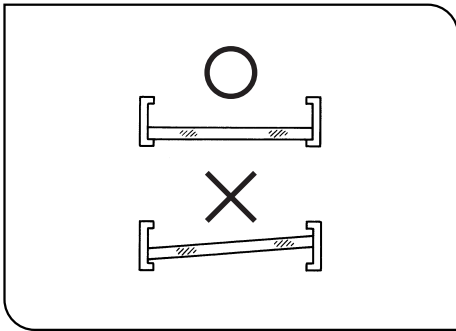

Fig. 39
- ⊙ Wait until the filters have cooled down enough before replacing a filter. Take out the filter holder ① and insert the required filter ②.
- ★ Insert the filter so that it comes at the bottom without tilting, as shown in Fig. 39. If the filter is tilted or not inserted to the bottom, it may drop from the filter holder.